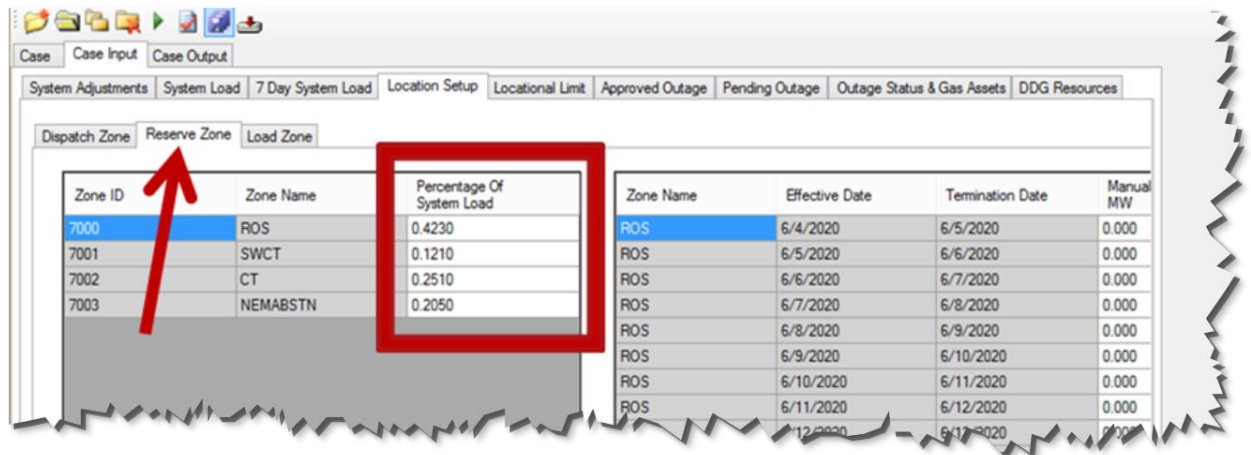

Fig. 5
2. SELECT the “Reserve Zone” embedded tab (see Fig. 5)